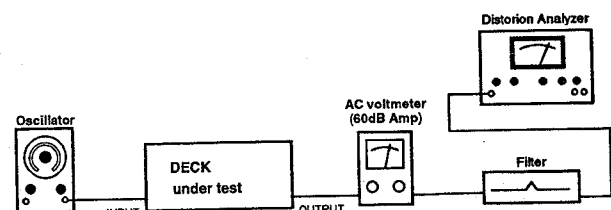

Fig. 2-17
1. Hook up as shown in Fig. 2-17. (60 dB flat amp connected, 22 kHz L.P.F., IEC-A: IN)